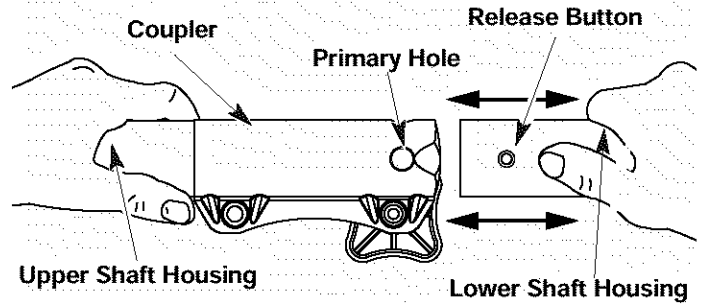

Fig. 2
3. While firmly holding the upper shaft housing, pull the add-on straight out of the coupler (Fig. 2).
3. While firmly holding the add-on, push it straight into the coupler (Fig. 2).